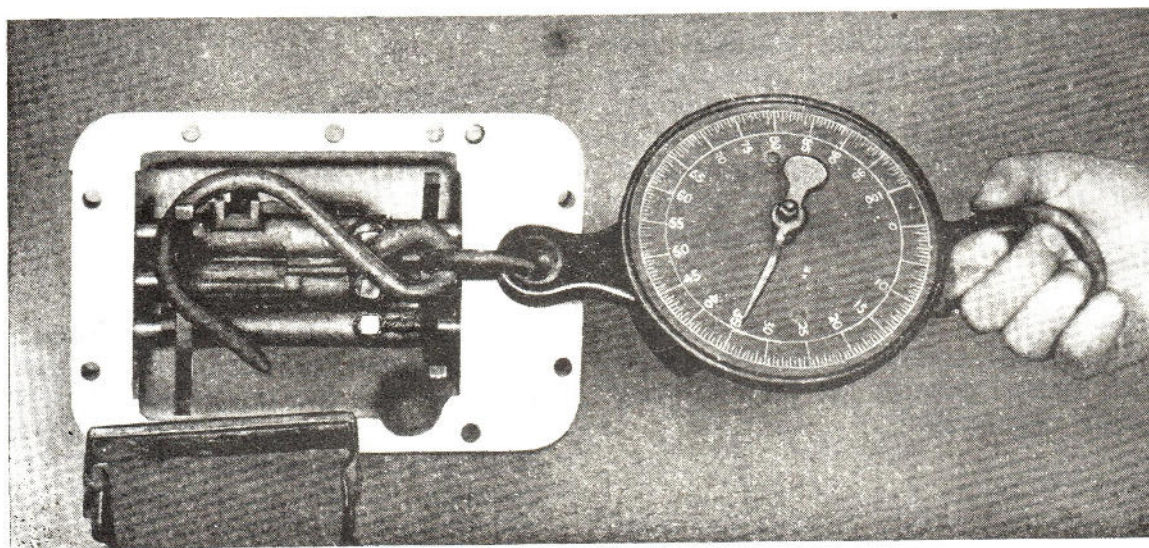

Fig. 42.
2. When refitting selector rods, locking plungers and springs, ensure the condition of these items and renew any weak springs or damaged plungers. The correct axial load which should be required to free the selector forks from the selector locking plungers can be accurately tested as shown in Fig. 42, this should be 35 lbs. with the four-speed box and 35 lbs. These axial loads are important where jumping out of gear is experienced.
Where “**jumping out of gear**” has been experienced the axial load required to release selector forks from locking plungers must be adequate, whilst an experienced mechanic should be able to judge this to a reasonable degree of accuracy, the method shown in Fig. 42 may be preferred. The correct axial load with this box is 35 lbs. The selector forks should be examined for wear on the faces and replaced if this is in any way appreciable. There have been instances where such wear has allowed persistent disengagement of gears.